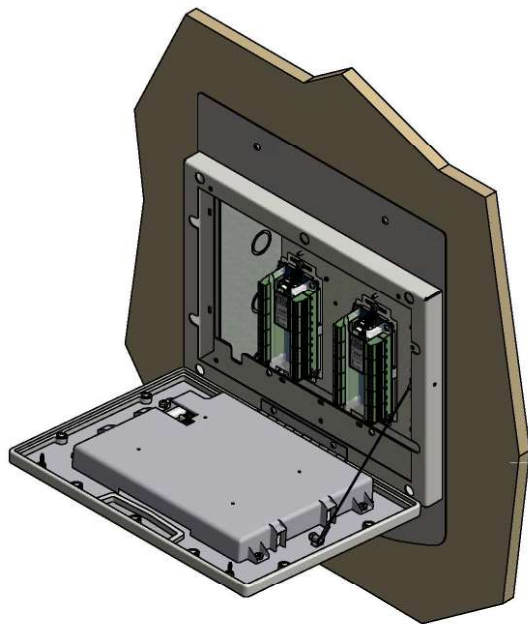

Figure 224: TotalAlert Infinity™ Single Mount Front Panel Assembly
3. Mount the Front Panel assembly hinge to the trim ring using the countersink sheet metal screws provided on the trim ring (Figures 224 - 226).